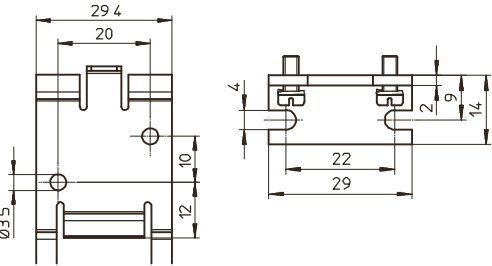

Fig. 3 Left wall mounting, right mounting bracket
Mounting bracket hole pattern → Fig.3
1. Wall mounting hole pattern → Fig.3